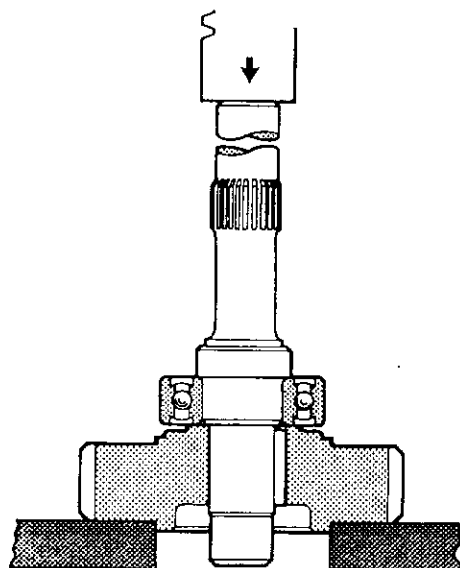

Figure 3.16
5. Insert the drive shaft key (27) into the shaft (28) and orient the drive shaft gear (9) to the shaft and key with the raised boss toward the bearing. Press gear onto the shaft, as shown in Figure 3.16.